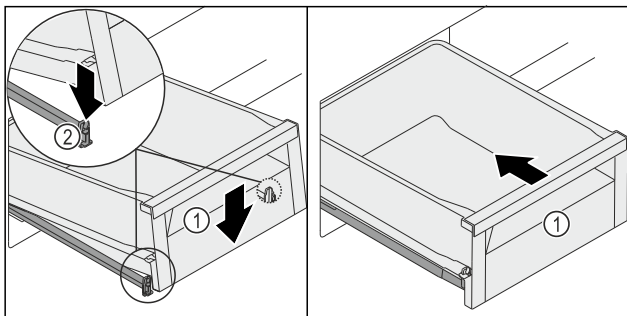

Fig. 130
- Lower the front of the drawer Fig. 130 (1) so that the drawer slides into the clamp Fig. 130 (2) on the left and right.
- The drawer Fig. 130 (1) latches in audibly.
- Push in the drawer Fig. 130 (1).